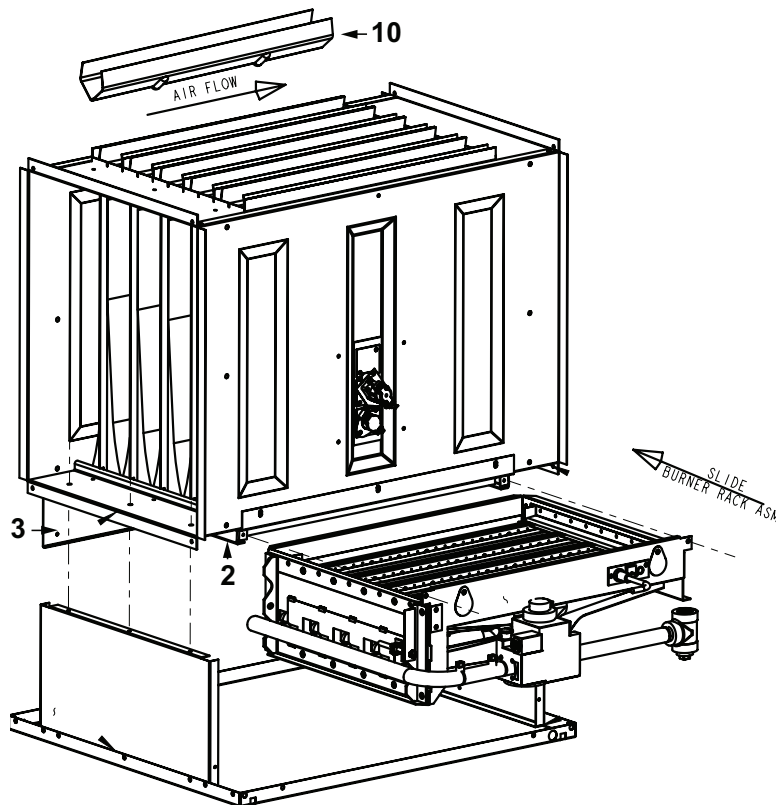

Figure 9. Heat Exchanger Assembly (Refer to Table 18)
- When replacing a heat exchanger (see Figure 9), check to see if the baffle assembly can be salvaged. If the baffle assembly cannot be salvaged, items 4–9 from Table 18 must be ordered separately and must be field-installed in the replacement heat exchanger. Baffle parts cannot be installed in the replacement heat exchanger at the factory. They must be ordered separately and installed in the field.